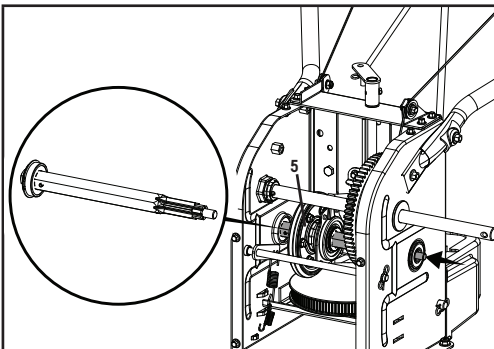

Figure 44
- Carefully position the hex shaft downward and to the left before carefully sliding the friction disc assembly (5) off the shaft (Fig. 44).